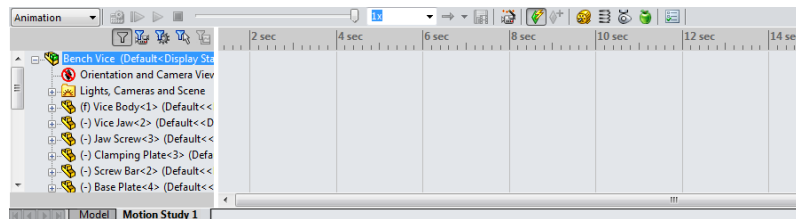

Figure 20-20 The MotionManager Interface
2. Click on the **Motion Study 1** tab displayed at the bottom; the **MotionManager** Interface will be displayed, as shown in Figure 20-20.